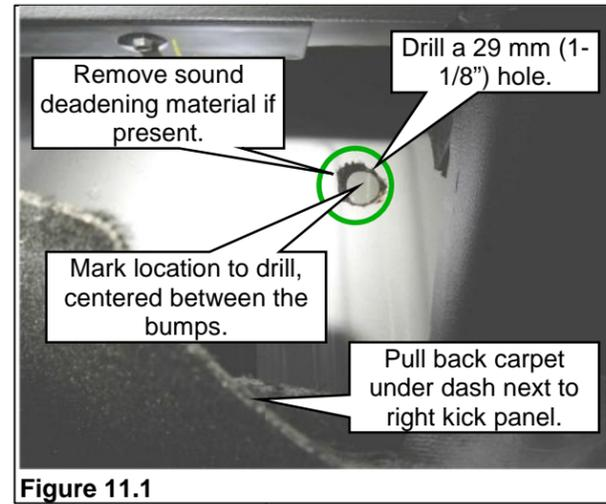

Figure 11.1
1. Pull back the carpet from under the dash next to the right kick panel. Remove the right kick panel if needed. Mark the location (as shown) to drill a 29 mm (1-1/8") hole. **Note:** If equipped, remove any sound deadening material from the location to drill. This material might cause improper seating of the harness grommet. **Figure 11.1.**
2. Drill the hole using a 29 mm (1-1/8") hole saw. **Note:** Use care when drilling to avoid damaging anything behind the panel. The pilot bit of the hole saw should not be extending any more than 13 mm (1/2") beyond the saw teeth. When drilling, push the drill no deeper than what is necessary to cut through the metal panel. **Figure 11.1.**